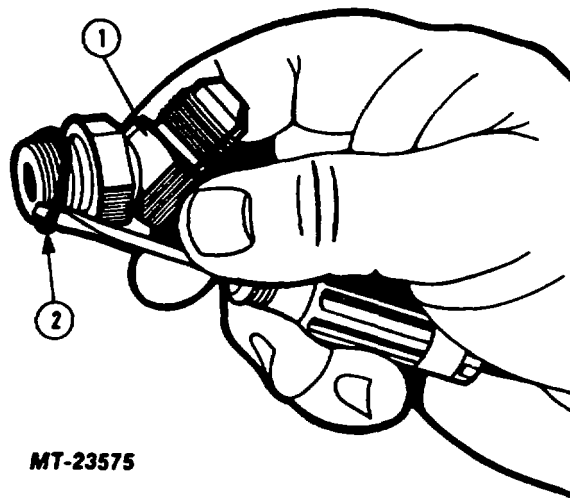

Fig. 39 Discharge Fitting O-Ring
14. Install new O-ring on discharge fitting (Figure 39) and install fitting in housing finger tight.